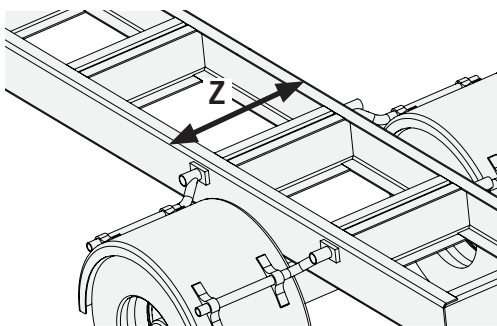

FIG. 156
- Measure the outside frame rail distance "Z", see Figure 156.